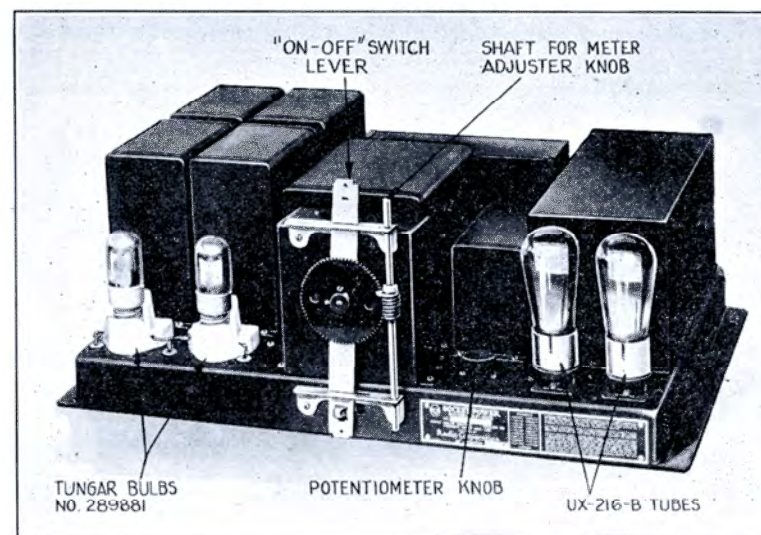

Fig. 19—The No. 404 Socket-Power Unit.
12. When the set has been operating for five minutes, adjust the black knob of balancing potentiometer (Fig. 19) on base of Socket-Power Unit (in line with Vacuum Tube sockets) for position for quiet operation.